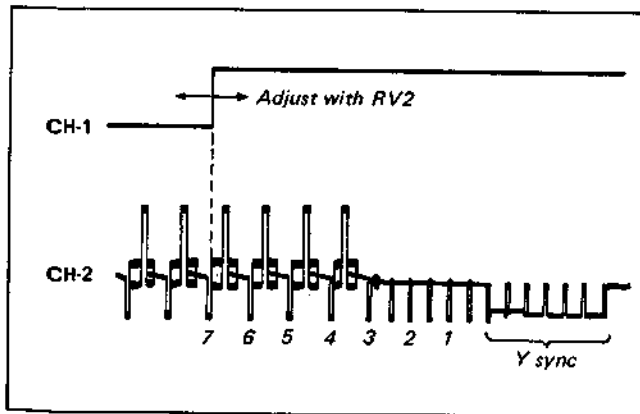

Fig. 4-3-5. RF switching position adjustment (2)
- (6) Adjust RV1 on the AS-3 board so that the phase difference between the rising section of the CH-1 waveform and the vertical sync signal of the CH-2 video signal are $7H \pm 2H$. (See Fig. 4-3-5.)